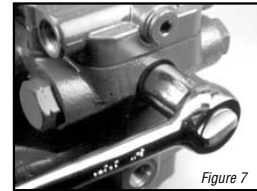

Figure 7
- 6** Use a 7/8 in. socket or end wrench to remove the optional bypass valve assembly from the backplate (see Figure 7).